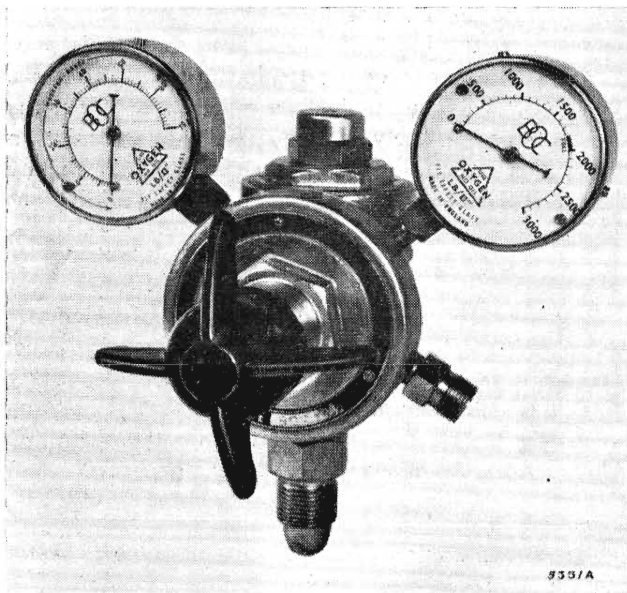

Fig. O.16. Type B.O.R.12A two-stage oxygen regulator.
- (1) Stand both cylinders vertically on the ground or on a trolley. Oxygen cylinders are painted BLACK. Acetylene cylinders are painted MAROON. **Never** attempt to interfere with the colour of cylinders or to repaint them.
- (2) See that jointing surfaces in cylinder valves and regulators are free from oil and grease.
- (3) Open the valve on the oxygen cylinder momentarily in order to dislodge dirt or other obstruction in the cylinder valve, then close.
- (4) Screw the oxygen regulator (painted BLACK) (Fig. O.16) into the oxygen cylinder valve. The oxygen cylinder valve outlet and oxygen regulator connection have **right-hand** screw threads.